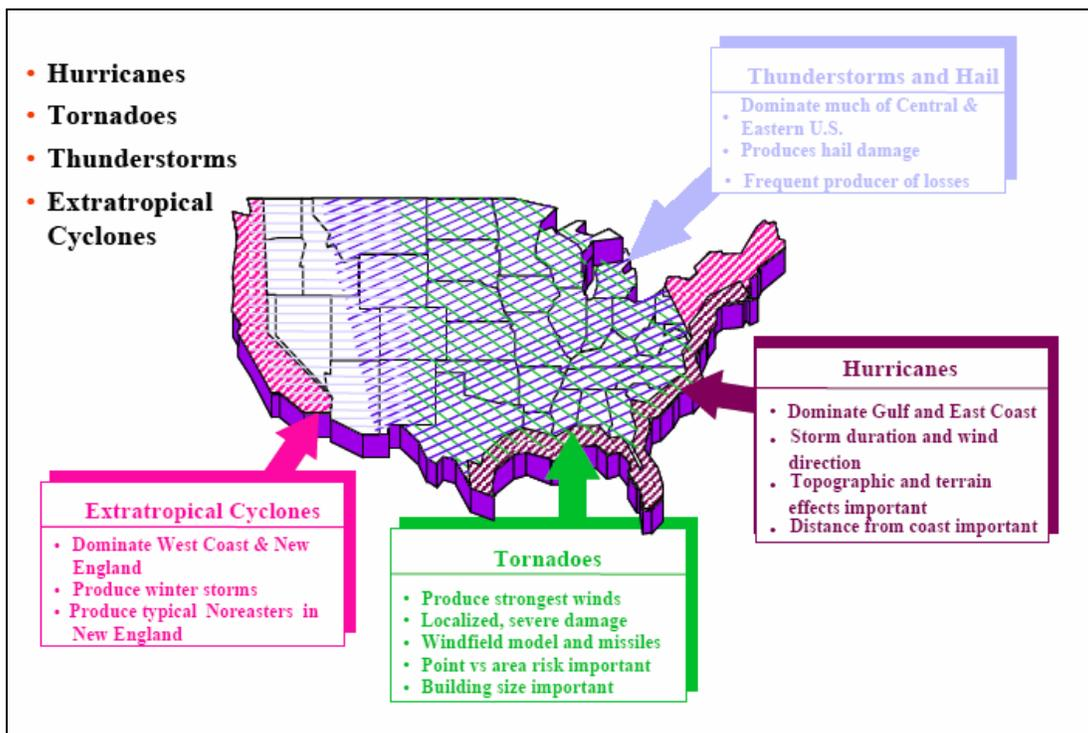

Figure 1. Examples of wind storms for the continental United States. Note from HAZUS Hurricane Model (FEMA, 2003).
- 1) Within the US, numerous wind hazards exist. Examples include (shown in Figure 1):